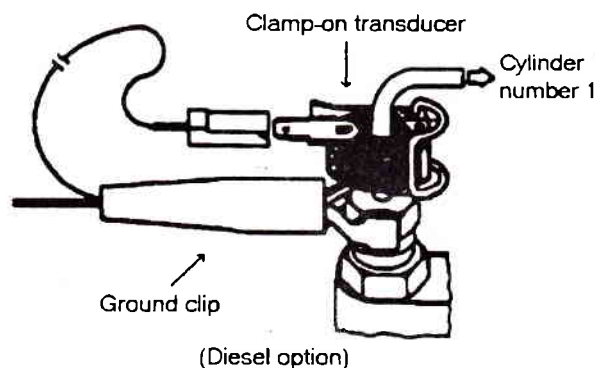

Figure 38, Clamp On Transducer
5. Attach the push-on terminal of the transducer lead to the clamp-on transducer. (see figure 38).